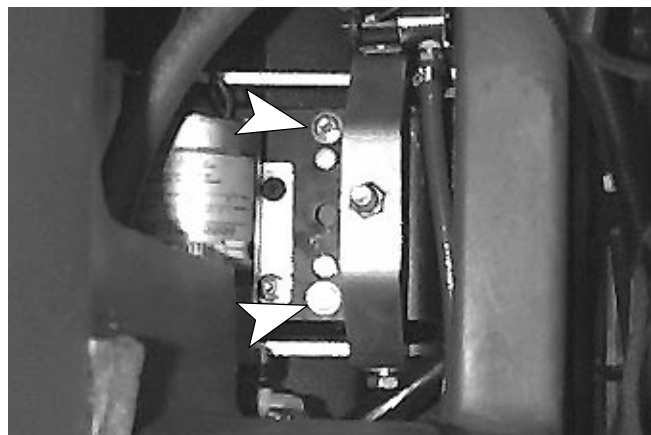

FIG. 26
3. Loosen the two brush height lock screws as shown. Do not remove screws (Figure 26).